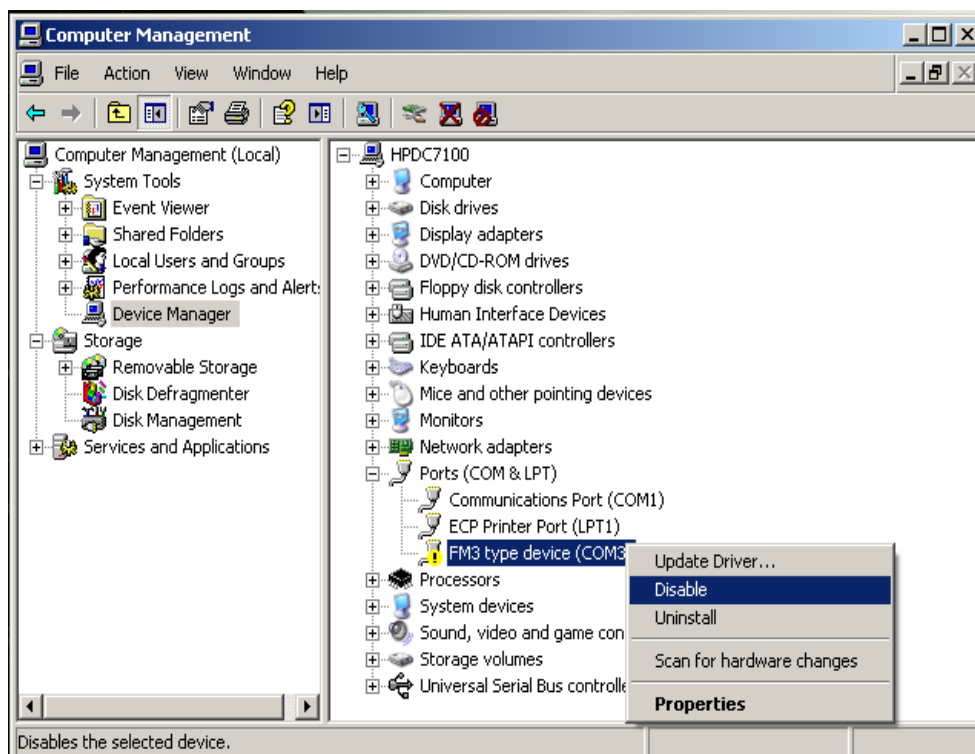

Fig. 1.3.6 Driver installation
- 4) and select “Disable” (Fig. 1.3.6).